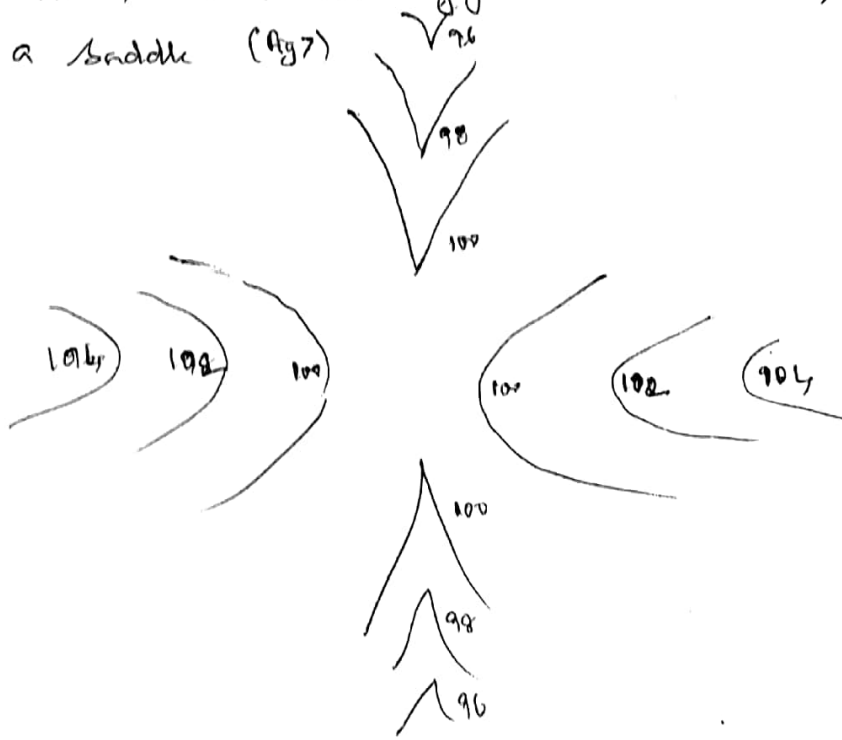

Fig 7. Saddle.
9. Position between two higher lines & two valley lines constitute a saddle (Fig 7)